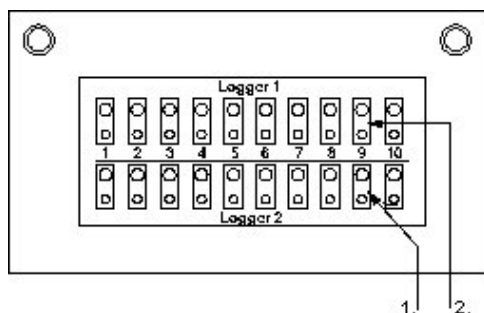

Figure 1, Rear View
*If two data loggers are being used in the thermal barrier (that is 16 or 20 channel operation) it is essential to note the serial number of the logger that has been designated as 'logger 1'. This will enable you to correctly identify the thermocouples when analyzing the information. See figures 1 and 2 below.*